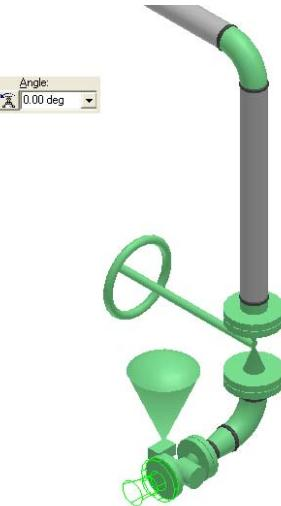

Figure 79: Outlined Eccentric Reducer in the Graphic View
31. An outline of the eccentric reducer and mating flange will appear in the graphic view, as shown in Figure 79. Key in **0 deg** in the **Angle** drop-down list on the **Insert Component** ribbon to rotate the eccentric reducer so that the flat side is towards the bottom.